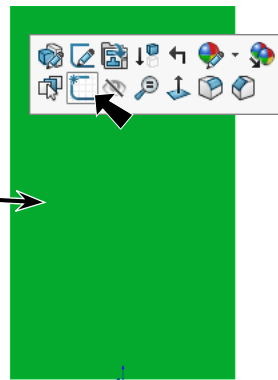
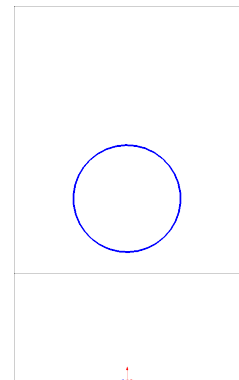

Fig. 7
Fig. 8
Step 2. Click **back face** and click **Sketch**  on the context toolbar, Fig. 7.
Step 4. Click **Circle**  (S) on the Sketch toolbar.
Step 5. Draw a circle for cartridge hole, Fig. 8.